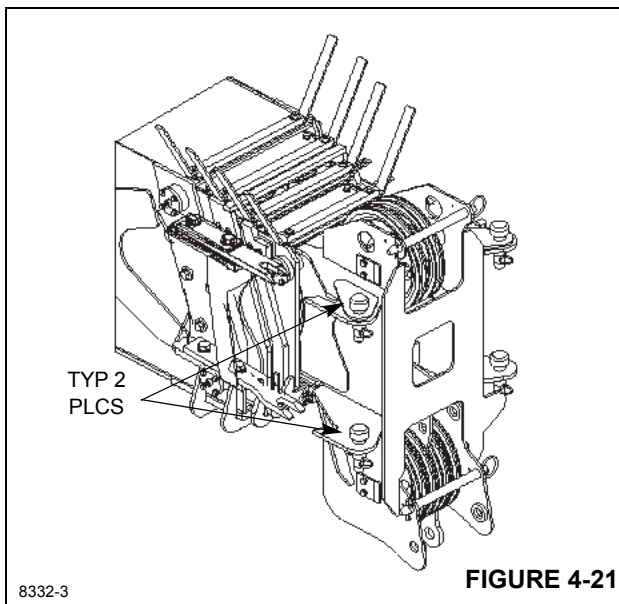

FIGURE 4-21
4. Using an overhead hoist, lift the jib assembly and align and pin the jib to the boom sheave head, Figure 4-21.